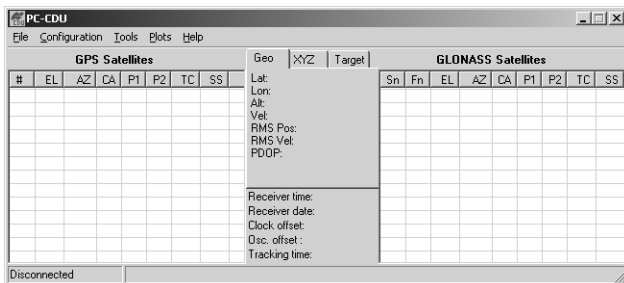

Figure 2-1. PC-CDU Main Screen
1. Once the receiver and a computer are connected, start PC-CDU on your computer. The PC-CDU main screen displays (Figure 2-1).